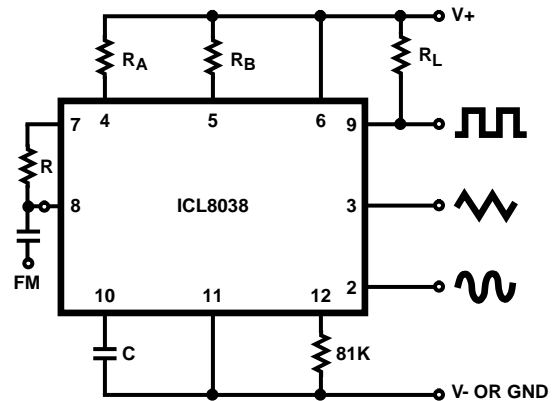

FIGURE 5A. CONNECTIONS FOR FREQUENCY MODULATION
3. $V_{SUPPLY} = 20V$; R_A and $R_B = 10k\Omega$, $f \cong 10kHz$ nominal; can be extended 1000 to 1. See Figures 5A and 5B.
The frequency of the waveform generator is a direct function of the DC voltage at Terminal 8 (measured from V+). By altering this voltage, frequency modulation is performed. For small deviations (e.g. $\pm 10\%$) the modulating signal can be applied directly to pin 8, merely providing DC decoupling with a capacitor as shown in Figure 5A. An external resistor between pins 7 and 8 is not necessary, but it can be used to increase input impedance from about 8kΩ (pins 7 and 8 connected together), to about $(R + 8\text{k}\Omega)$.